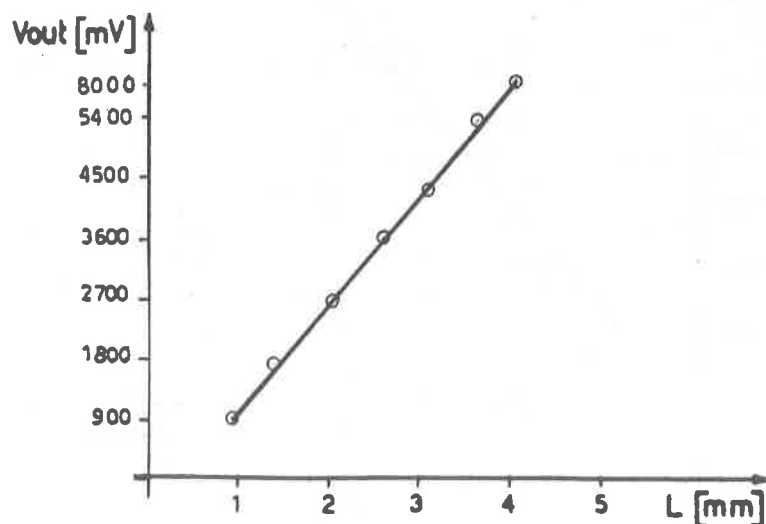

FIG. 3.4
- Plot the best fit straight line of the sensor as indicated in the exercise 3.4.(fig. 3.4).